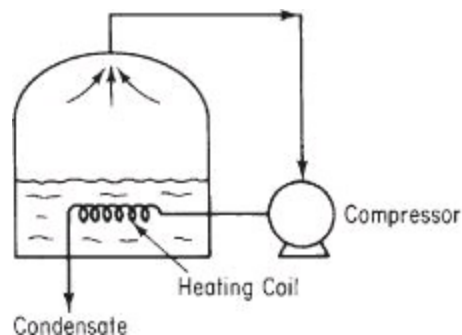

Figure P9.3.43
- ***9.3.43. In the vapor-recompression evaporator shown in Figure P9.3.43, the vapor produced on evaporation is compressed to a higher pressure and passed through the heating coil to provide the energy for evaporation. The steam entering the compressor is 98% vapor and 2% liquid, at 10 psia; the steam leaving the compressor is at 50 psia and 400°F; and 6 Btu of heat are lost from the compressor per pound of steam throughput. The condensate leaving the heating coil is at 50 psia, 200°F.